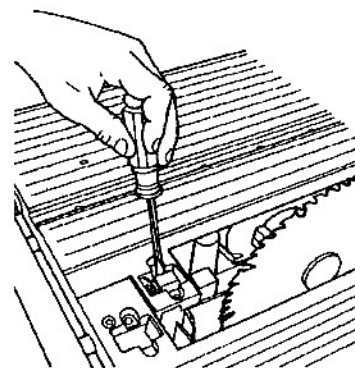

Fig. B-27
b. Use a medium screwdriver to gently pry the pillow block to the **right**, as illustrated in Fig. B-27. It should move only far enough to get the paper to slip between the rod and blade with the same resistance as set at the outfeed side.